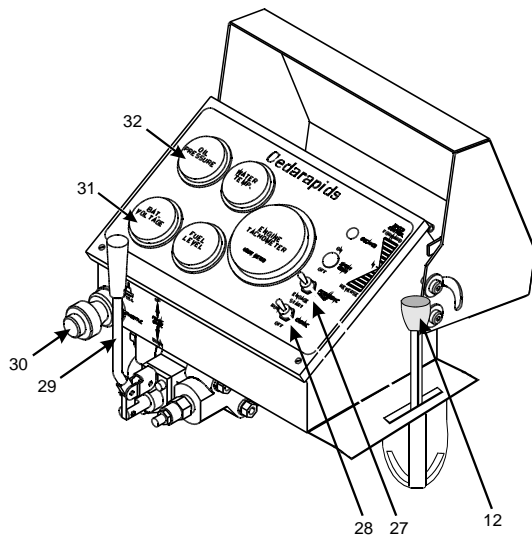

Figure 34
- Set SPEED CONTROL lever to neutral 12 (Figure 34)
- Push in THROTTLE to set idle 30 (Figure 34).
- For Start up: With the PERMISSIVE START switch 27 (Figure 34) in the override position, engage OFF/RUN/START switch 28 (Figure 34).
- Verify correct oil pressure (32) and alternator output (31) Figure 34. (Consult engine owner's manual).
- Pull THROTTLE out to set operating speed at 2000 rpm (30) figure 34.
- Raise front of machine all the way up to aid in folding casters out by using the FRAME RAISE lever (29) Figure 34.
- Adjust CONVEYOR SPEED control (12) Figure 34 to a speed which is just fast enough to remove the windrow at current travel speed. (Excessive speed on the conveyor accelerates component wear).